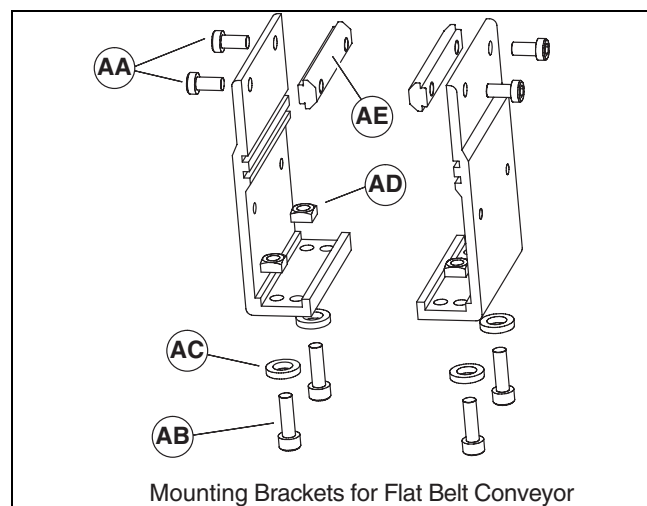

**Figure 9**
5. Slide belt (Figure 9, item P) over assembled conveyor sections (Z).